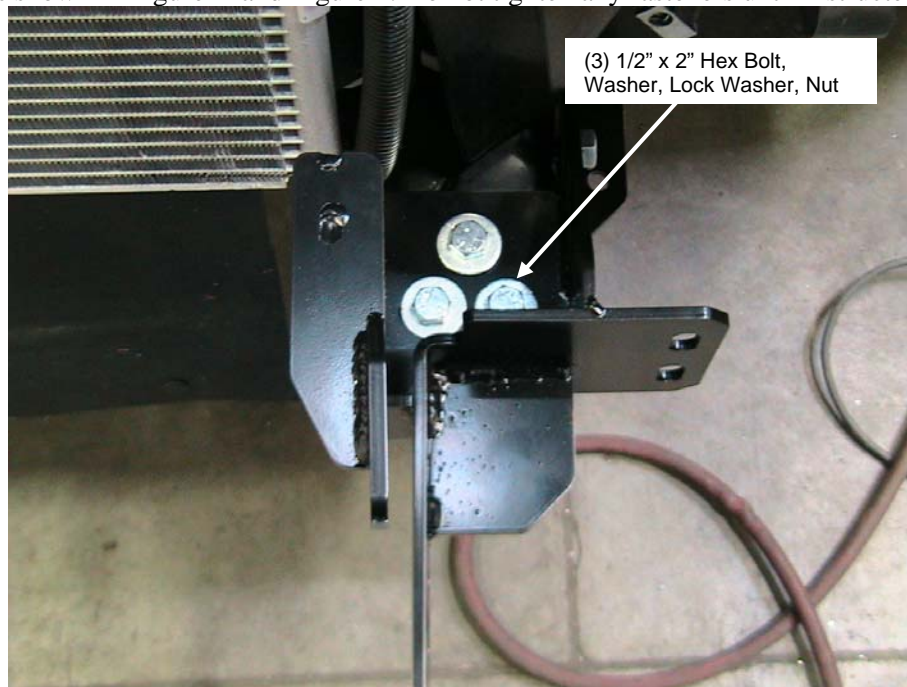

Figure 2. Top Frame Bolt Installation. (Driver Side)
3. Install fasteners as shown in Figure A and Figure 2. Do not tighten any fasteners until instructed to do so.